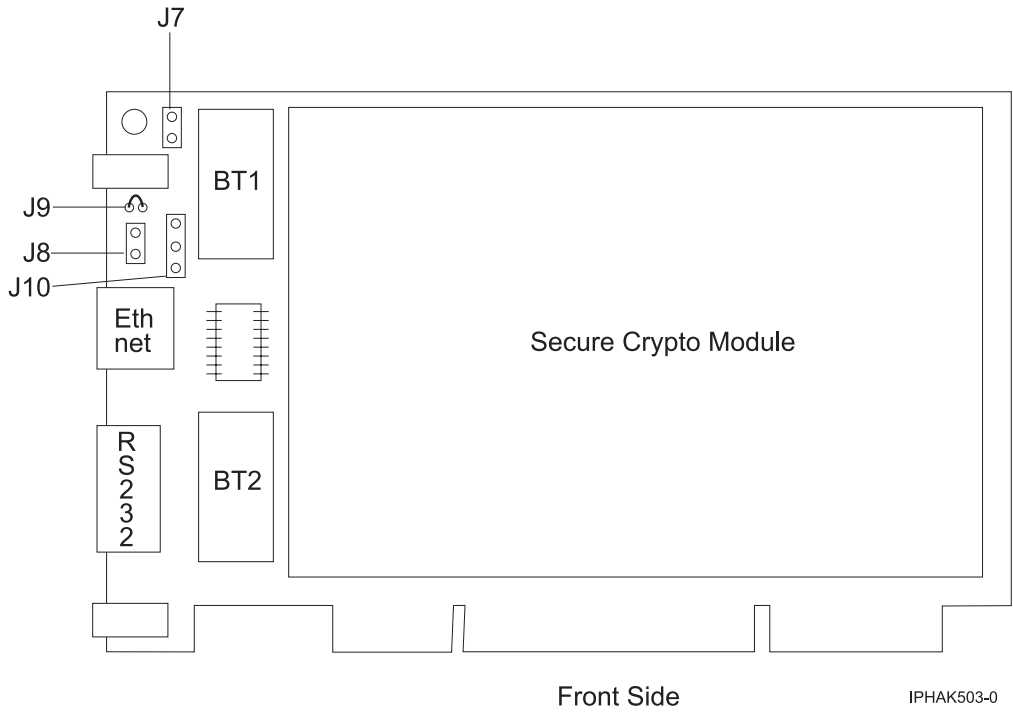

Figure 8. Front side of the adapter
6. Insert one of the new batteries into the battery tray provided with the kit. Align the + on the battery with the + on the battery tray (the end with the red wire). Connect the tray wires to the J10 connector located near the RS-232 serial port, as shown in Figure 8 on page 44. The connector is polarized to ensure a proper connection.